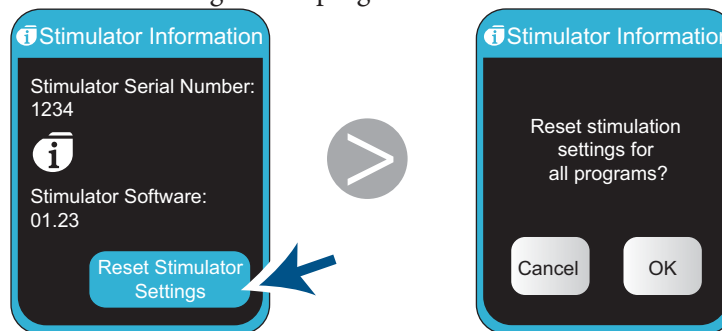

Figure 28. Resetting the stimulation settings for all programs
3. Tap Reset Stimulator Settings. (Figure 28). A screen appears asking if you want to reset the stimulation settings for all programs.